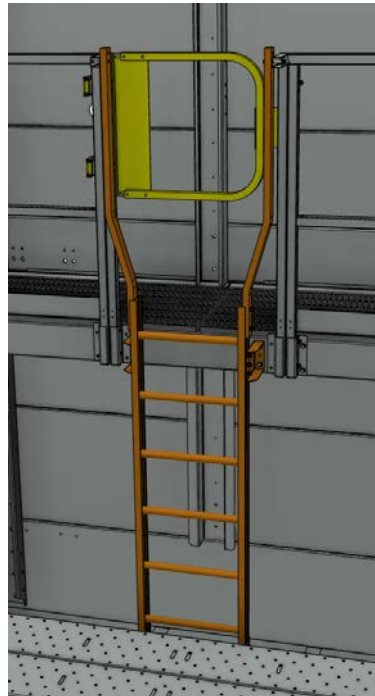

Figure 22. Internal Service Platform Ladder
1. Attach ladder bracket to the access platform using 3/8" bolts provided. See **Figure 22, Detail A.**